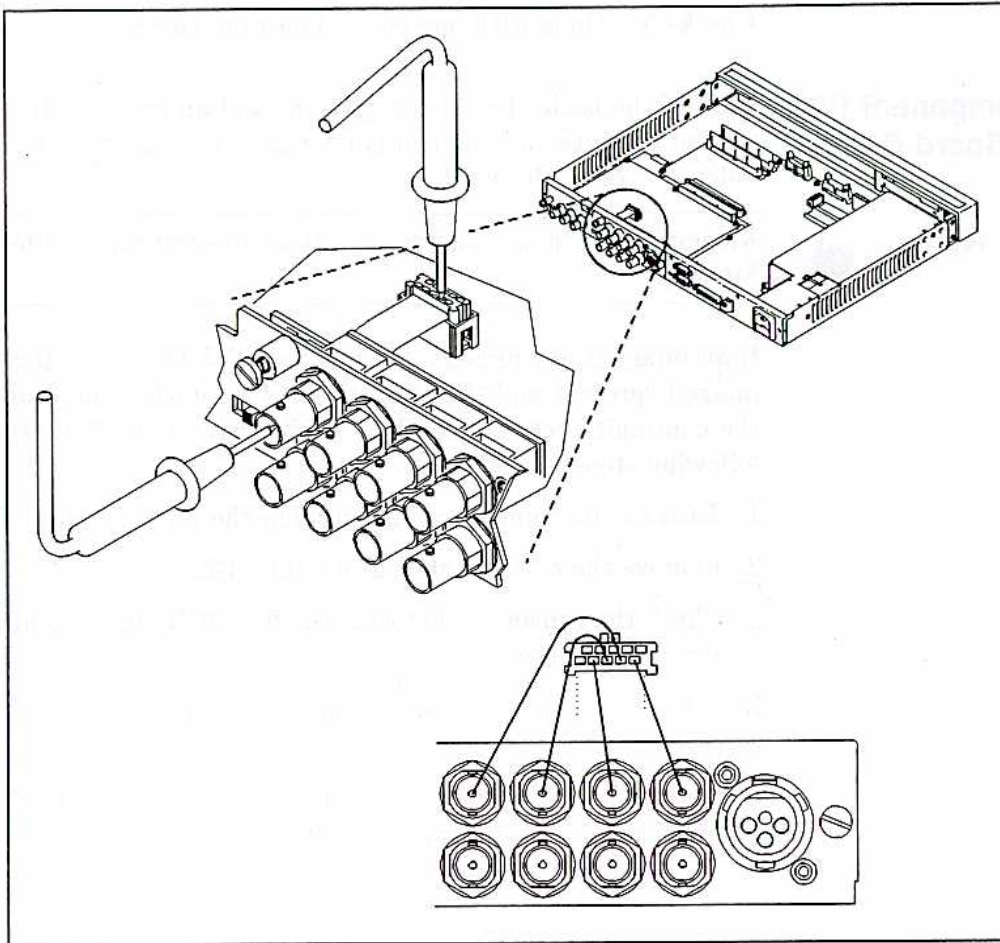

Figure 2-5. Diagnostic Connections for RGB BNC Board
3. Check the continuity between the four BNC inputs and A5J9 as shown in Figure 2-5.